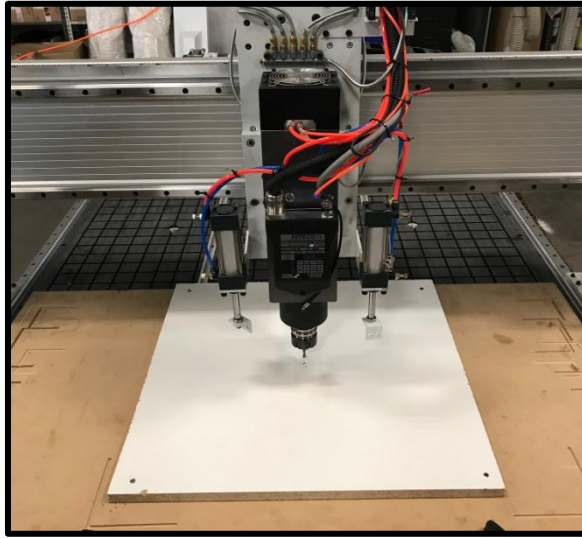

Figure 4. Simple workpiece setup
8. Verify coordinate system (figure 4).
9. Verify which tool cone is currently in the spindle and compare to the **CurSpindl** parameter on the controller run screen (figure 4).
- c. On the controller, you will see the X and Y axis coordinates go to zero (figure 4).
- c. On the controller, you will see the Z-axis coordinate go to zero (figure 4).